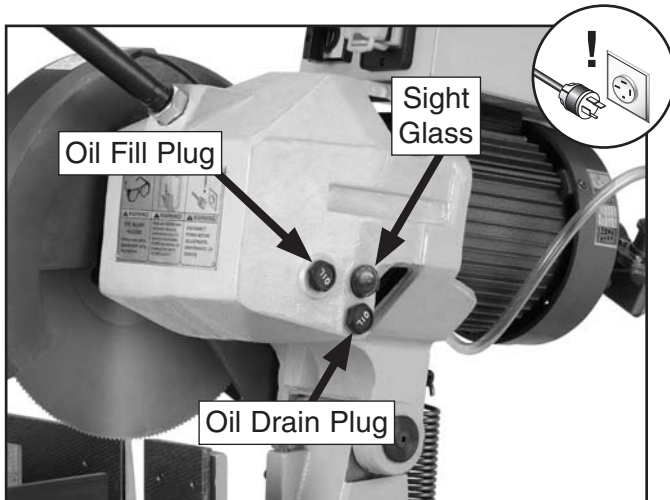

Figure 53. Hinge pin lubrication.
3. Hold the drain pan under the oil drain plug, then remove the oil drain plug (**Figure 53**).